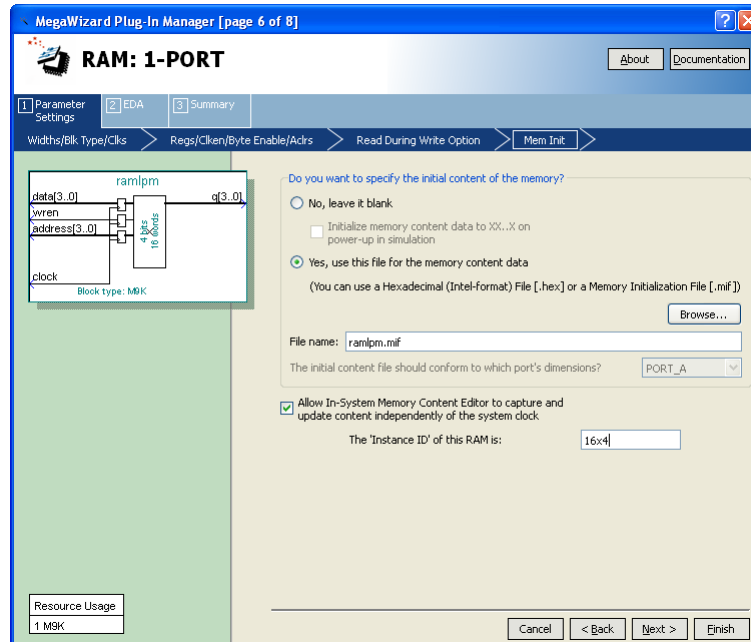

Figure 5: Configuring *RAM: 1-PORT* for use with the In-System Memory Content Editor.
- Create a new Quartus II project for your circuit, and use the MegaWizard Plug-in Manager to again create a *RAM: 1-PORT* LPM. For Pages 3 to 5 of the Wizard use the same settings as in Part I. On Page 6, shown in Figure 5, specify the *ramlpm.mif* file as you did in Part IV, but also make the setting *Allow In-System Memory Content Editor* to capture and update content independently of the system clock. This option allows you to use a feature of the Quartus II CAD system called the In-System Memory Content Editor to view and manipulate the contents of the created RAM module. When using this tool you can optionally specify a four-character 'Instance ID' that serves as a name for the memory; in Figure 5 we gave the RAM module the name 16x4. Complete the final steps in the Wizard.